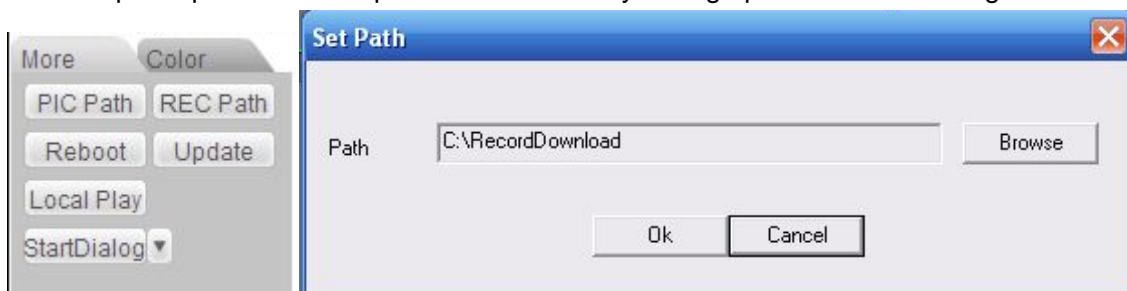

Figure 4- 11
2)Click reboot device. You will see a pop-up box as in the left picture in Figure 4- 12 and click OK to reboot.